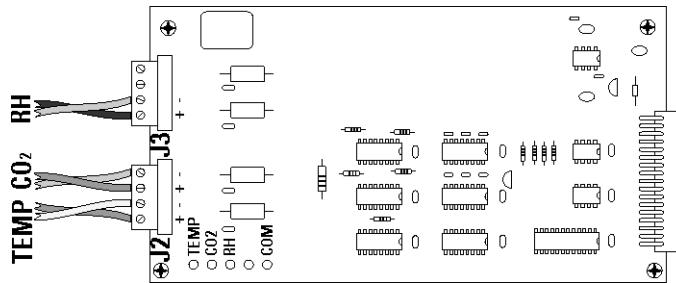

Figure 6-4. Board Conductors
4. Each system monitored (Temp, CO₂, RH) requires two conductors (Refer to Figure 6-4). Feed the wires through the auxiliary wire through-port (see above) on the back panel. This port is a circular fitting adjacent to the remote alarm and RS485 connectors.
5. Strip the ends of each conductor and wire it to the appropriate terminals of connectors J2 and/or J3 on the analog board. (Refer to Figure 6-4.)